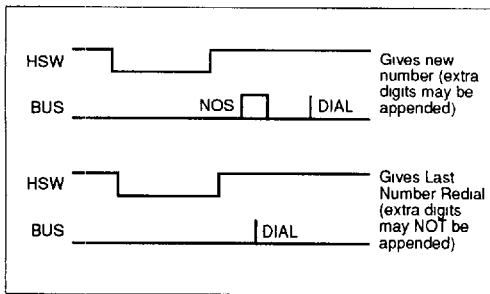

Figure 7: LNR protocol - Phone mode
- (i) No digits are loaded between HSW being timing out (or DISCON being set) and DIAL being set in Phone Mode.(See Fig. 7).